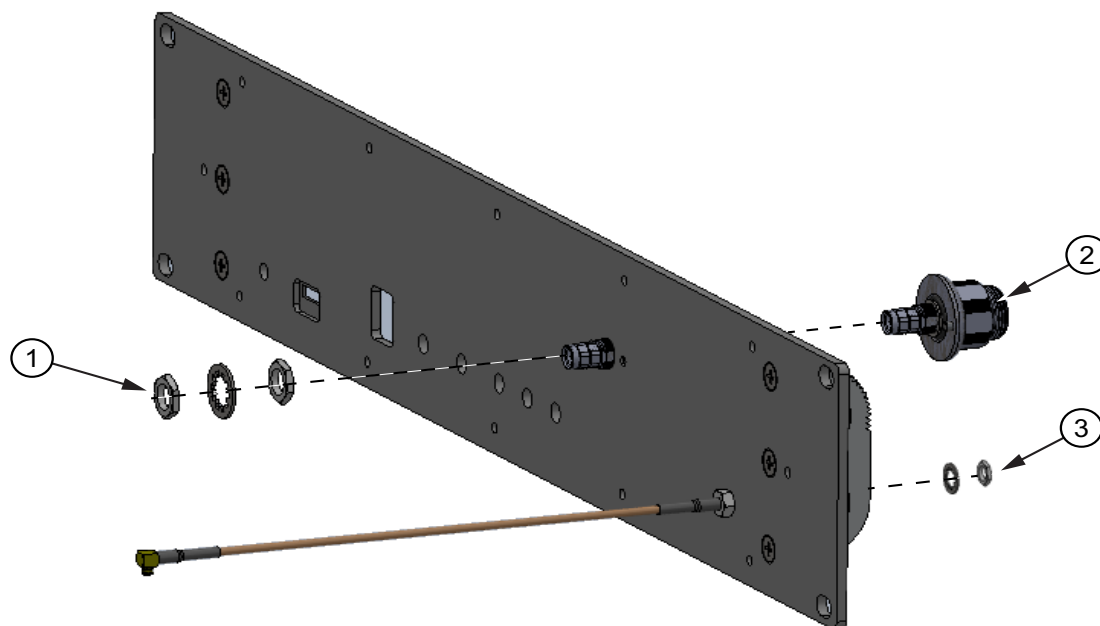

Figure 3-9. RF Input Connector Removal
2. Using a 1/2" wrench, remove the nut and washer from the RF input connector shown at location 1. See Figure 3-9.
4. Using a 5/16" wrench, remove the nut and washer from the IF output cable shown at location 3. See Figure 3-9.